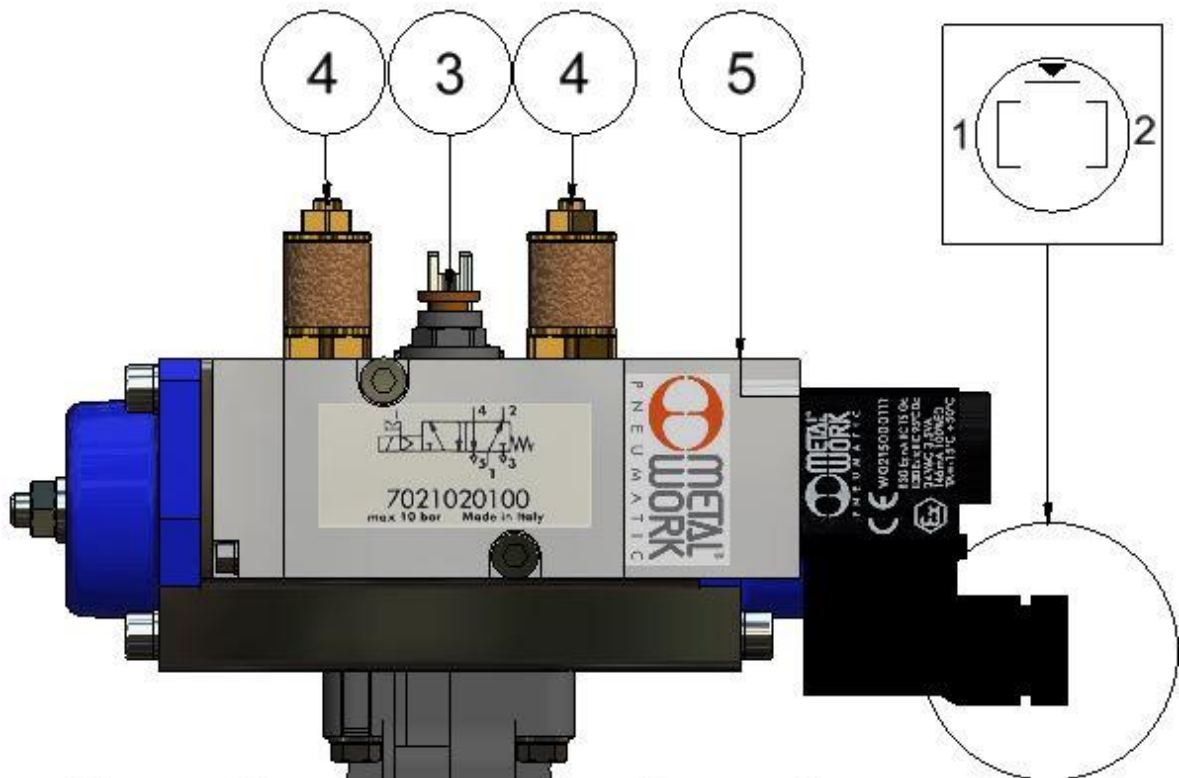

Figure 8 Electrical scheme of electro-pneumatic control valve PKV series
- See figure 8 in the annexes;
figure 8 depicts a schematic representation of the connecting socket fuse.